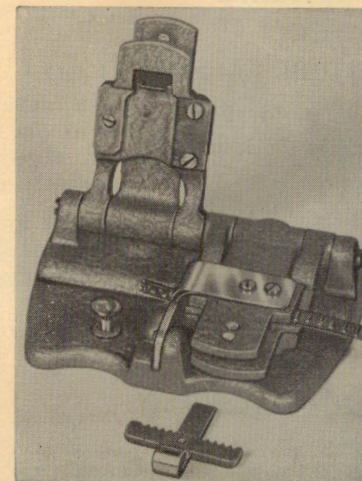

Fig. 12
1. Raise upper and lower left arm and upper right arm. Place film on right side on registration pins, emulsion side up and clamp with upper right arm. (see Fig. 12)